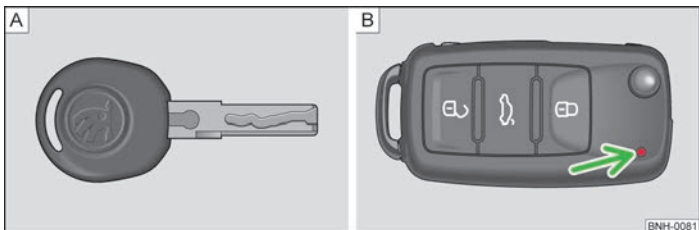
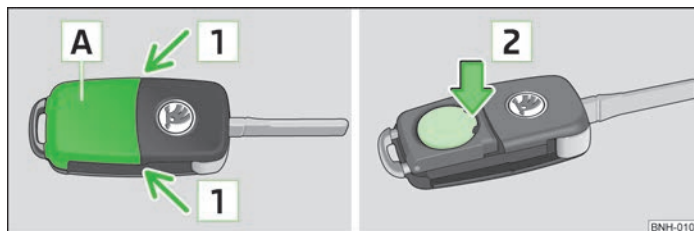

Fig. 7 Key without remote control/key with remote control (remote control key)
Fig. 8 Remote control key: Remove cover/remove battery
Two keys are provided with the vehicle. Depending on the equipment, your vehicle can be equipped with keys without radio remote control » Fig. 7 - A or with radio remote control » Fig. 7 - B.
Each remote control key contains a battery that is located under the cover A » Fig. 8. The battery needs replacing if red warning light » Fig. 7 on page 24 - B does not go on when you press a button on the remote control key. We recommend that you ask a ŠKODA Service Partner to replace the key battery. However, if you would like to replace the discharged battery yourself proceed as follows.
- Press off the battery cover with your thumb or using a flat screwdriver in the region of arrows 1 » Fig. 8.